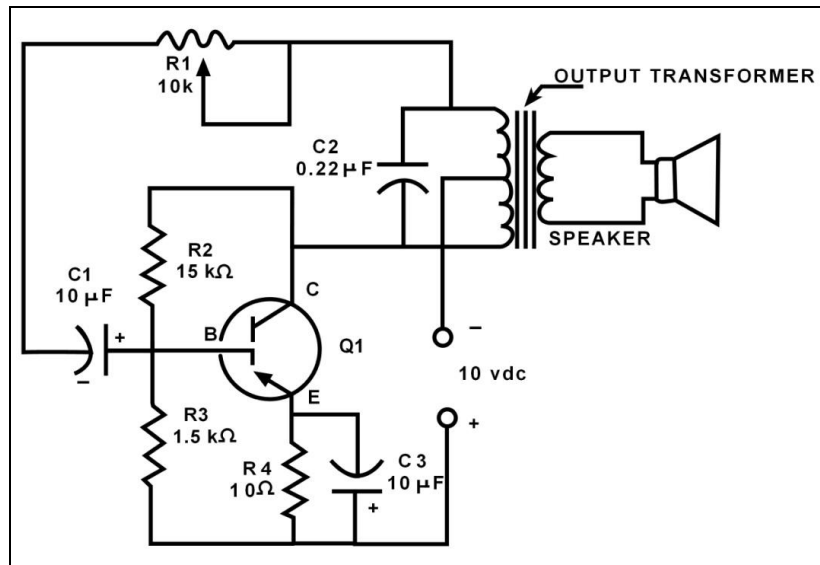

Fig. 3.4-24 LC Oscillators
The LC oscillator is a circuit that adds a tuned circuit to an amplifier circuit. The tuned circuit makes the oscillator work at the resonant frequency of the tuned circuit. The oscillator feedback adds energy lost in the tuned (LC) circuit because of resistance. As a result, the output of the tuned circuit is a continuous, undamped ac wave. Fig. 3.4-24 shows a simple LC oscillator like the one you will make. The